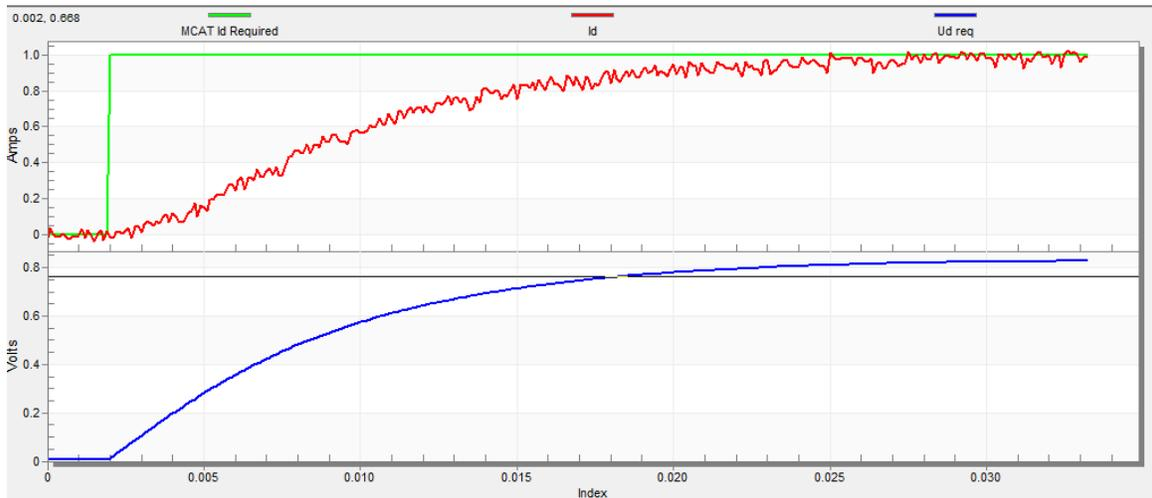

Figure 43. Slow step response of the I_d current controller
- The loop bandwidth is low (110 Hz) and the settling time of the I_d current is long (Figure 43).